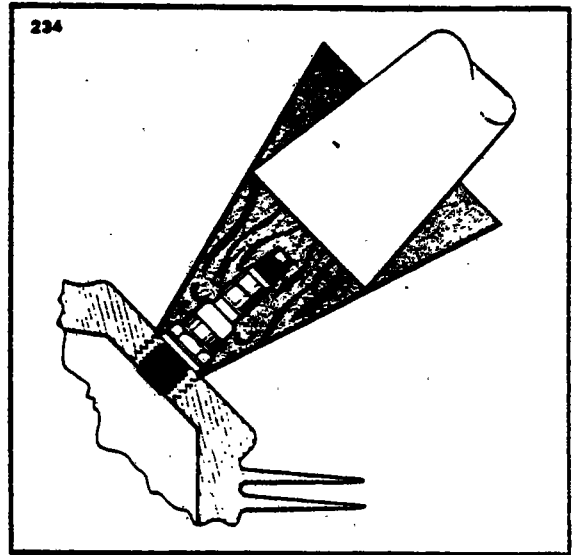

Figure 8-20. Removing Spark Plug Frozen to Bushing
d. Removal of seized spark plugs in the cylinder may be accomplished by application of liquid carbon dioxide by a Conical metal funnel adapter with a hole at the apex just large enough to accommodate the funnel of a CO2 bottle. (Refer to Figure 8-20.) When a seized spark plug cannot be removed by normal means, the funnel adapter is placed over and around the spark plug. Place the funnel of the CO2 bottle inside the funnel adapter and release the carbon dioxide to chill and contract the spark plug. Break the spark plug loose with a wrench. A warm cylinder head at the time the carbon dioxide is applied will aid in the removal of an excessively seized plug.